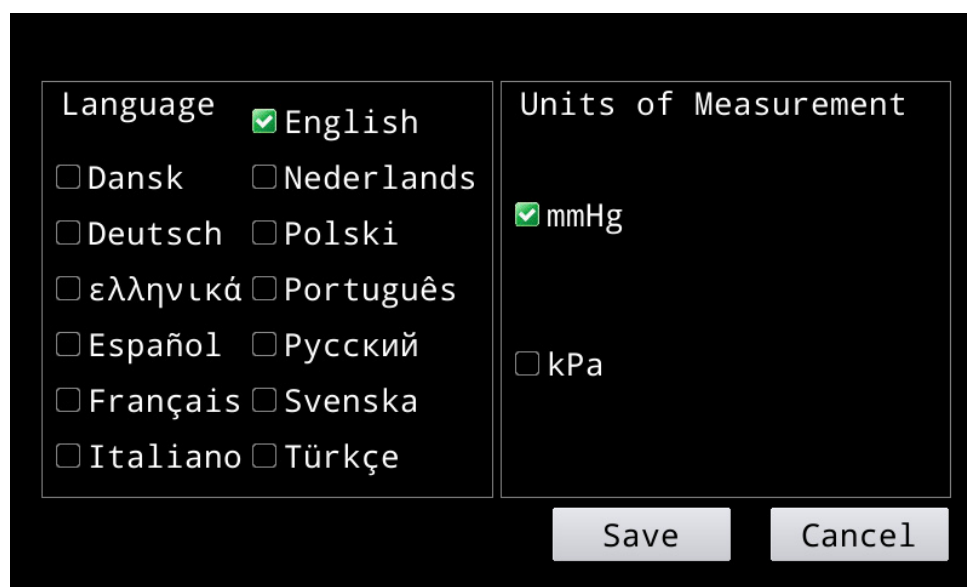

Figure 9. Language/Units Screen
1. On the Configuration Menu, press **Language/Units**. Language/Units screen (figure 9) displays.